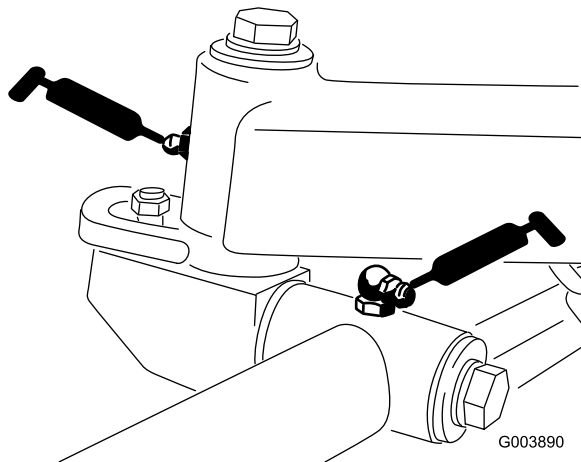

Figure 43
- 2 fittings on each cutting unit carrier frame and pivot (10 total) (Figure 43)